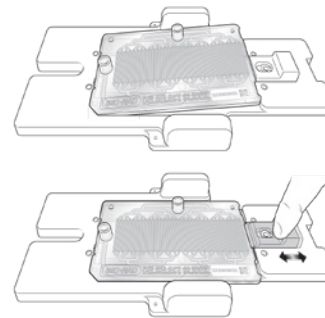

Fig. 21. Inserting the slide into the slide holder.
- Place the slide into the slide station 2.0 by gently pulling the spring-loaded tab to allow the slide to fall into place. The notched end of the slide drops into the notched end of the slide station (Figure 21).